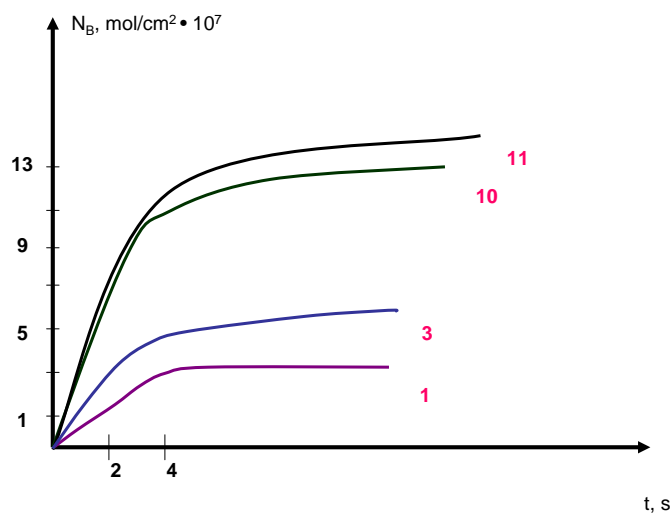

Figure 1b. The amount of the product  $N_B$  as a function of time
b) The dependences of the amount of B formed in  $1 \text{ cm}^2$  of the catalytic surface upon time are given in Fig. 1b. Different curves correspond to different initial pressures of the reagent A. These pressures (in arbitrary units) are shown by red numbers. There are  $10^{15}$  catalytic sites in  $1 \text{ cm}^2$  of the surface. Calculate *TOF* for the catalyst. This catalyst worked during 40 minutes and then became inactivated. Estimate *TON*.